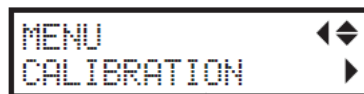

Fig 63: Selecting the CALIBRATION Option
Step 3: Press the Right arrow button to confirm the selection of the **CALIBRATION** option (Refer to Fig 63).